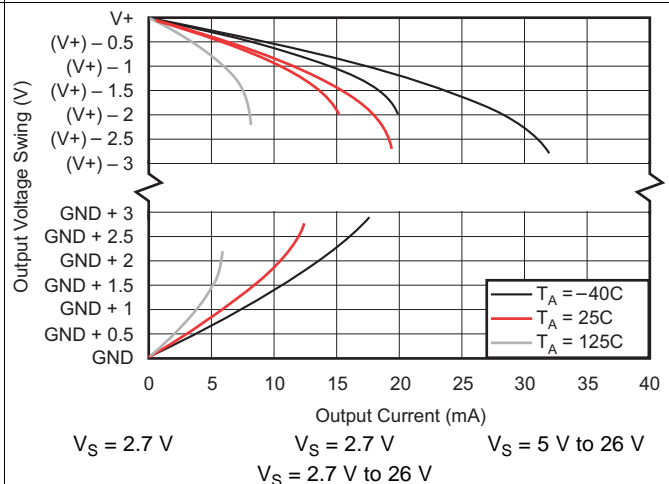

Figure 10. Output Voltage Swing vs Output Current
(1) RTI = referred-to-input.
(2) See Typical Characteristic curve, *Output Voltage Swing vs Output Current* (Figure 10).